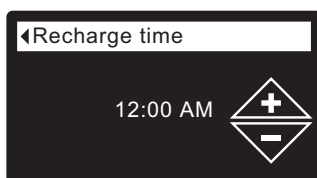

FIG. 51
5. Press the SELECT (O) button to display the Recharge time screen (See Figure 51).